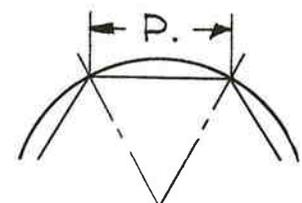

Figure No. 1
STEP No. 2: Layoff chords (P) equal to the chain pitch, on the pitch circle. (See Figure No. 1.)